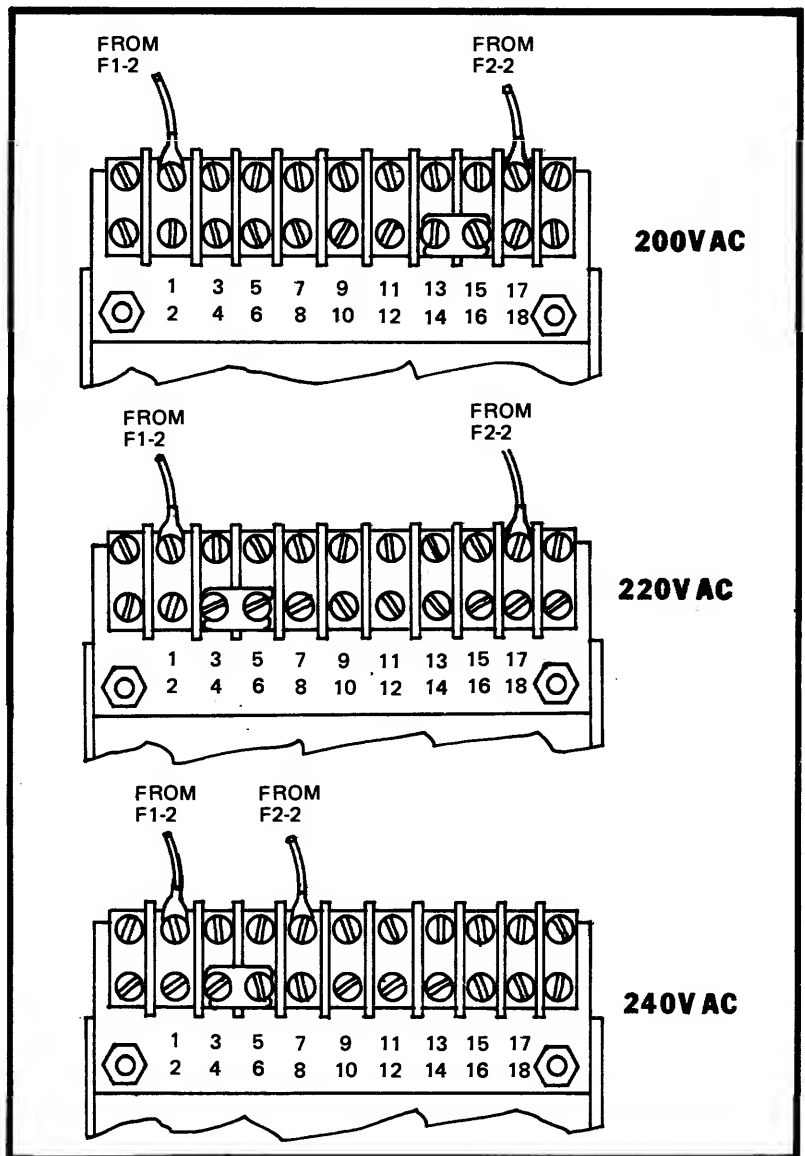

Figure 23. Transformer Connections for 200V/220V/240V
c. Connect wire from fuse terminal F2-2 to the appropriate transformer tap indicated in figure 23.
d. Install transformer tap jumper as indicated in figure 23.